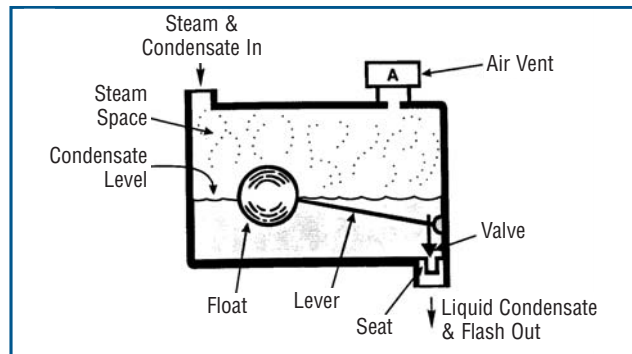

Figure 7. Float and Thermostatic Steam Trap
**Float and Thermostatic (F&T) Traps.** Float and thermostatic (F&T) traps are similar to float and lever traps except they include a thermostatic element that allows air to be discharged at start up and during operation. The thermostatic elements used in these traps are the same as those used in thermostatic traps. The configuration of a float and thermostatic steam trap is shown in Figure 7.